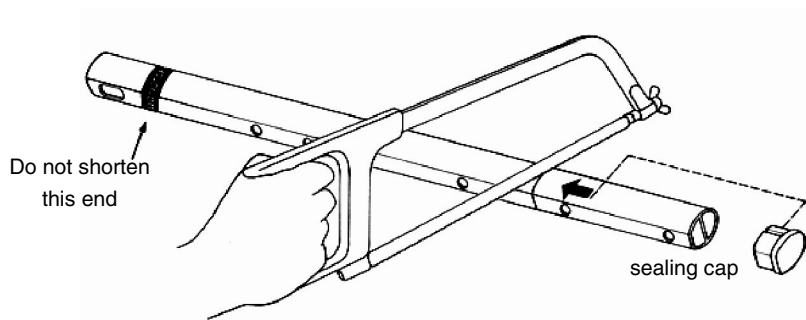

Figure 16 Cutting the Venturi tube
- 3 Close the end of the Venturi tube by means of the supplied sealing cap. See Figure 16 below.